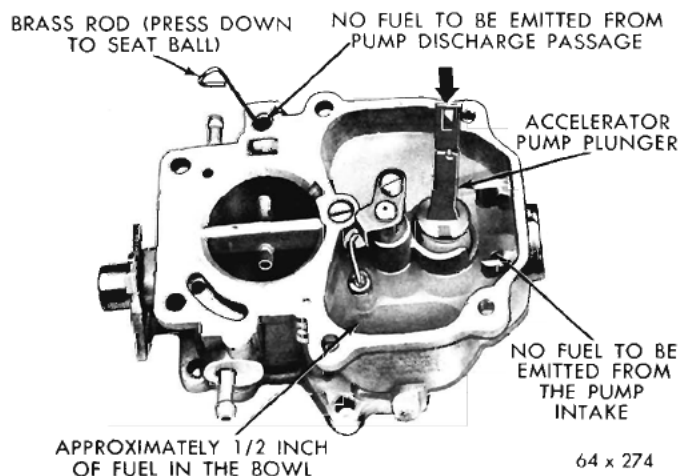

Fig. 10—Testing Accelerator Pump Intake and Discharge Check Balls
(2) Pour clean gasoline into the carburetor bowl, approximately  $\frac{1}{2}$  inch deep. Remove the pump plunger from the jar of gasoline and slide down into the pump cylinder. Raise the plunger and press lightly on the plunger shaft to expel air from the pump passage.
(3) Using a small clean brass rod, hold the discharge check ball down firmly on its seat. Again raise the plunger and press downward. No fuel should be emitted from either the intake or discharge passage, as shown in (Fig. 10).